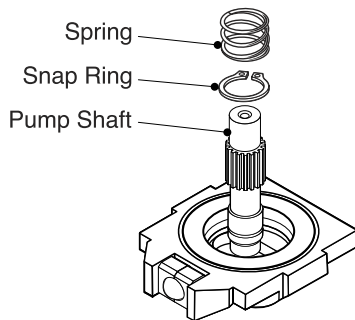

Fig. 35, Swash Plate Removal
2. Remove the Spring and the Snap Ring. (Fig. 35)